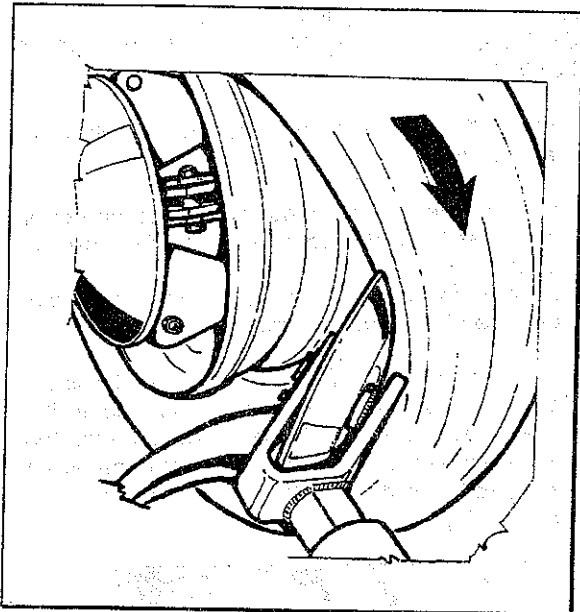

Fig.33
5. Demount the inner bead with the bead breaker disc, as described in @5.2.7. (Fig.33).